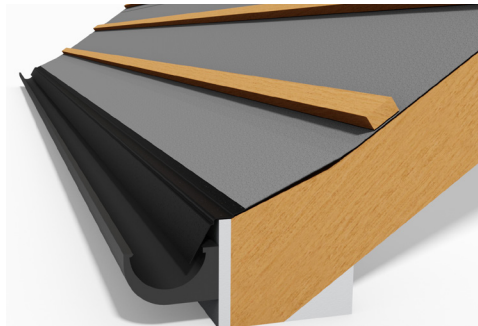

fig 1: Eaves detail
2. Lay Danelaw LR120T printed side facing outwards, parallel to the eaves with the bottom edge overlapping the support tray (fig. 1) or 5U membrane by 150mm. The edge of the Danelaw LR120T roof tile underlay should not be exposed to UV once the first course of tiles or slates are installed.